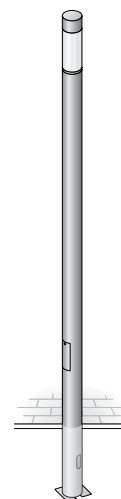
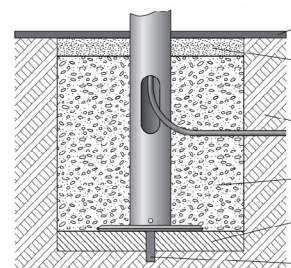

Figure 1:
Figure 4:
3. Route supply wiring through the mounting base and install pole (Figure 1, Figure 4).